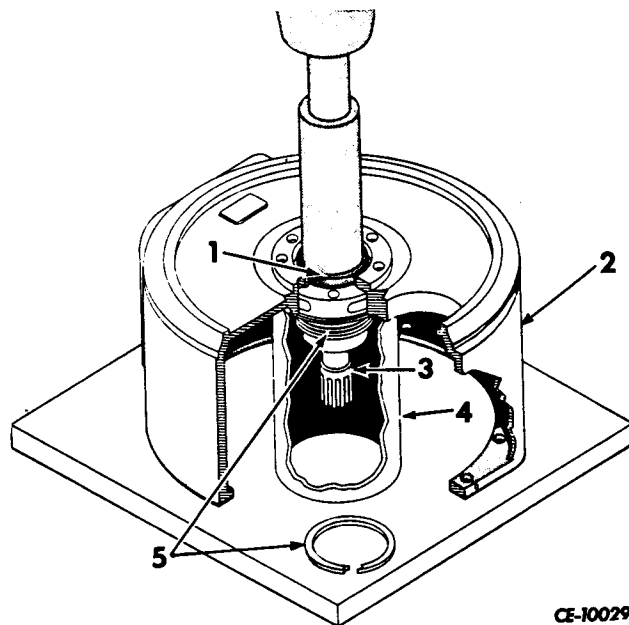

Figure 3-37
To remove ground sleeve hub (3, Fig. 3-37), remove seal ring (5) from hub. Place converter housing (2) in a press with splined end hub down. Support center of housing with a steel sleeve (4) 165 mm I.D. x 228.6 mm long (6-1/2 in. I.D. x 9 in. long) with 6,35 mm (1/4 in.) wall thickness. Sleeve must not contact hub. Place a steel disc (1) 95,25 x 19,05 mm (3-3/4 x 3/4 in.) in center of hub and press out hub. Discard hub gasket.